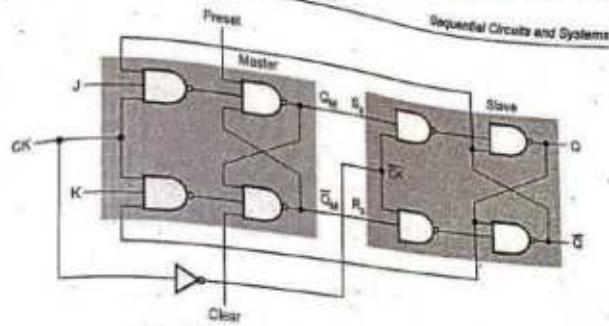

Fig. 5.4.25 Master - slave JK flip - flop
- Fig. 5.4.25 shows the master-slave JK flip-flop. Positive clock pulses are applied to first flip-flop and inverted (negative) clock pulses are applied to second flip-flop. (See Fig. 5.4.25 on next page)